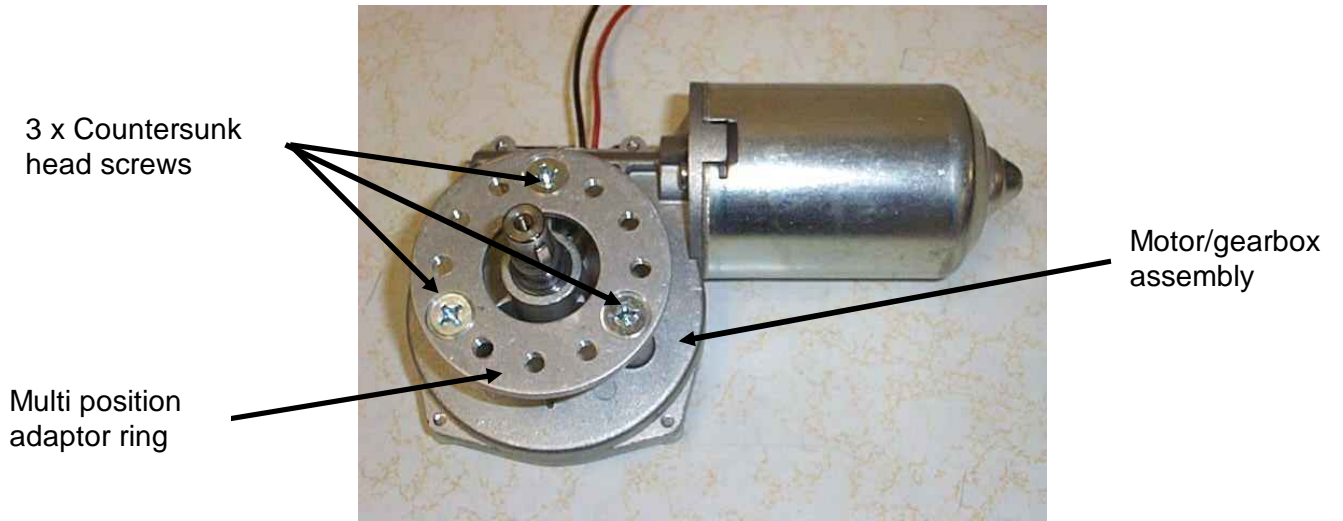

Fig 1 Attachment of Multi Position Adaptor Ring
5. Fit the adaptor ring to the gearbox mounting holes on the new WF005 motor/gearbox assembly using the 3 countersunk head screws as per Fig 1.